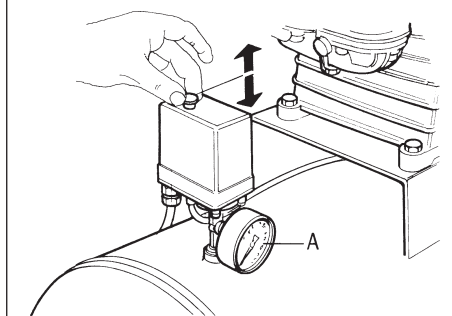
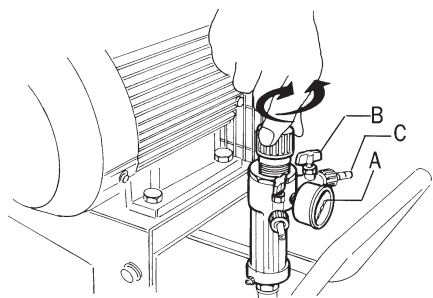

fig. 3
fig. 6
- check that the red button on the air pressure switch is in "OFF-0" position (*fig. 3*).
To switch off the compressor push the button to "OFF - 0" position (*fig. 3*).
When rotating clockwise the outlet pressure increases, when rotating in the opposite direction the pressure decreases. If the compressor is supplied with a jet tap, do not open or close the air outlet by rotating the tap with pliers or other tools which might damage the tap B (fig. 6); usually the tap is easy to rotate.
There are two types of pressure regulators with a maximum pressure of respectively 8 and 10 bar. A higher pressure would hamper the proper functioning of the compressor. The pressure level for use is shown on the manometer A (fig. 6), whereas the inner tank pressure is shown by the manometer A (fig. 3).
- Connect the compressor pipe to the air outlet tap C (fig. 6) and open it. After using the compressor, close the tap.